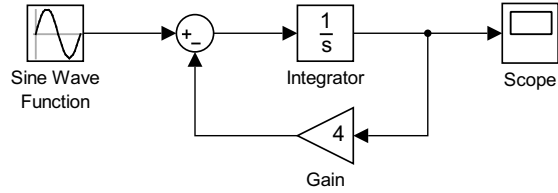

Figure 1.12: Connections for First Order ODE model for  $\frac{dx}{dt} = 2 \sin 3t - 4x$ .
- One can annotate the diagram by clicking near where labels are needed and typing in the text box. This leads to the model in Figure 1.12. In more current versions the default is to hide block names.